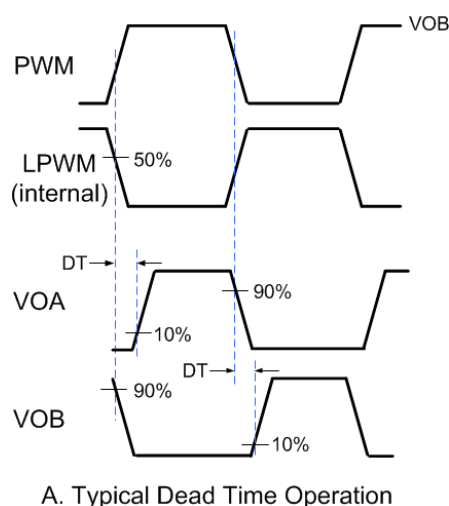

Figure 2.18. Dead Time Waveforms for High-Side/Low-Side Drivers
All high-side/low-side drivers (Si82394/8) include programmable dead time, which adds a user-programmable delay between transitions of VOA and VOB. When enabled, dead time is present on all transitions. The amount of dead time delay (DT) is programmed by a single resistor (RDT) connected from the DT input to ground per the equation below. Note that the dead time pin should be connected to GND1 through a resistor between the values of 6 k Ω and 100 k Ω and a filter capacitor of 100 pF in parallel as shown in Figure 3.1 Si82394/8 Application Diagram on page 18. It is highly recommended it not be tied to VDD1. See Figure 2.18 Dead Time Waveforms for High-Side/Low-Side Drivers on page 17 below.